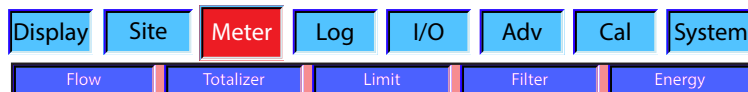

Figure 64: Meter group
**NOTE:** Pipe thickness transducer must be applied perpendicular to the long axis of the pipe/tube (See Figure 64).